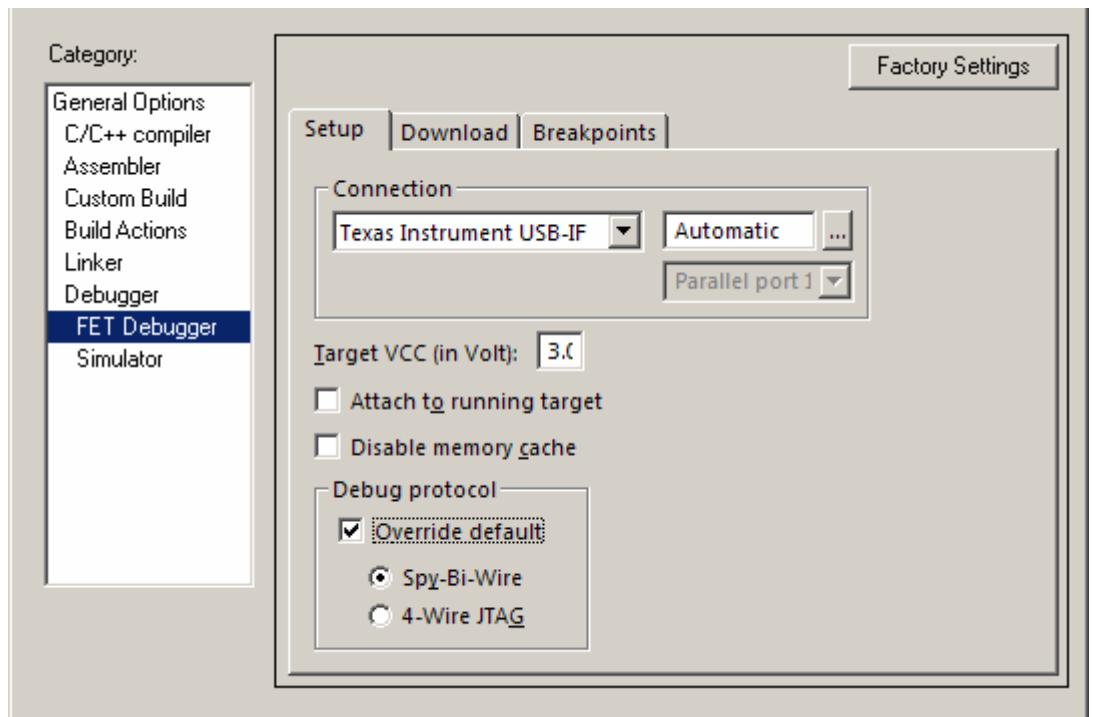

Figure A-4: Selection of the Spy-Bi-Wire interface for MSP430F2013
6. For a new project created, the Spy-Bi-Wire interface is the default setting for the MSP430F2013. If this selection needs modification, under the **FET Debugger** menu as shown in Figure A-4, check the **Override default** box and then make the Spy-Bi-Wire selection instead of the 4-Wire JTAG. It is to be noted that the Parallel FET does not support the Spy-Bi-Wire interface and cannot be used to debug/program the MSP430F2013.